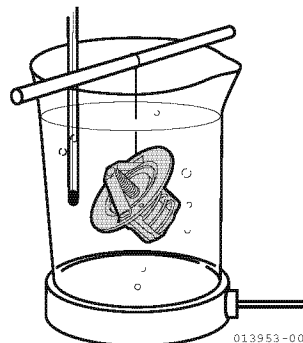

Figure 7-7
2. Immerse the thermostat into a container of water. Suspend it so that it does not come into contact with the walls or bottom of the container (**Figure 7-7**).